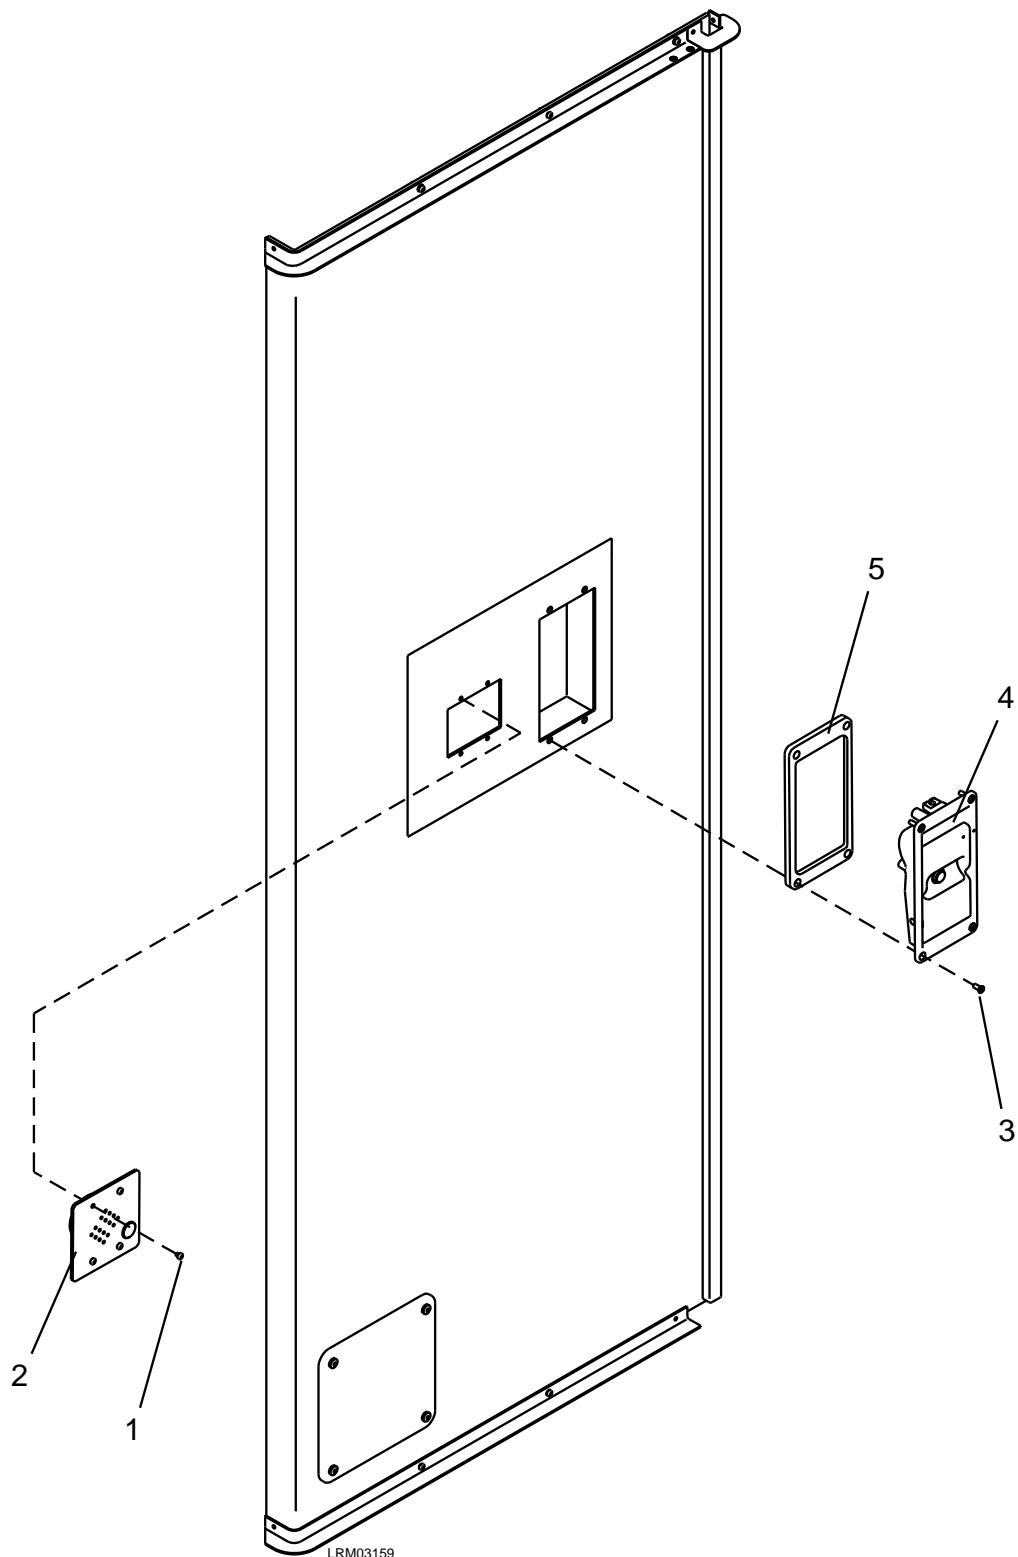

Figure 7-86: Passenger Emergency Intercom
1. Remove the four M4 x 16 screws (1) from the Passenger Emergency Intercom (2). See Figure 7-86.
2. Remove the Passenger Emergency Intercom (2) enough to access the wiring.
3. Disconnect the electrical connector from the Passenger Emergency Intercom (2).
4. Remove the Passenger Emergency Intercom (2).
1. Remove the four M5 x 20 screws (3) from the Manual Door Release Handle (4). See Figure 7-86.
2. Remove the Manual Door Release Handle (4) enough to access the bowden cable.
4. Remove the Manual Door Release Handle (4) and the bracket (5).